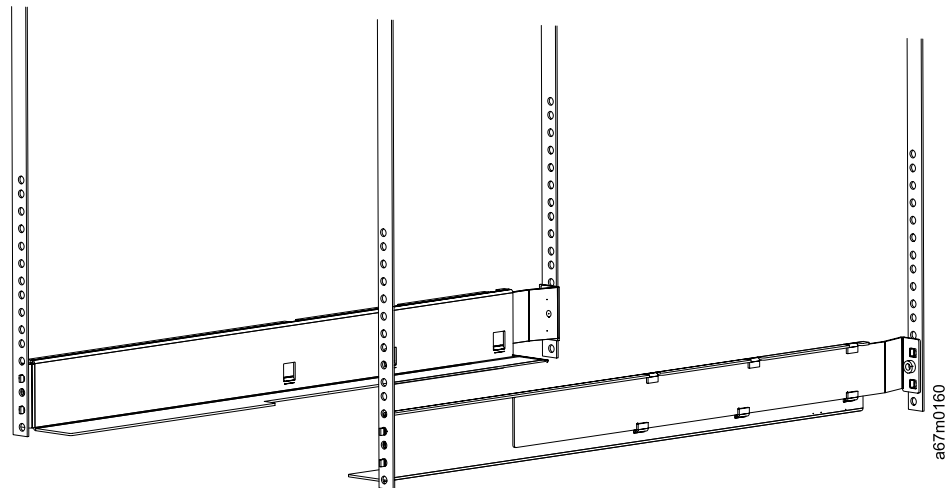

Figure 13. Fully assembled rackmount hardware
7. Tighten all four screws since they support the weight of your library, and compare your rail installation to Figure 13.